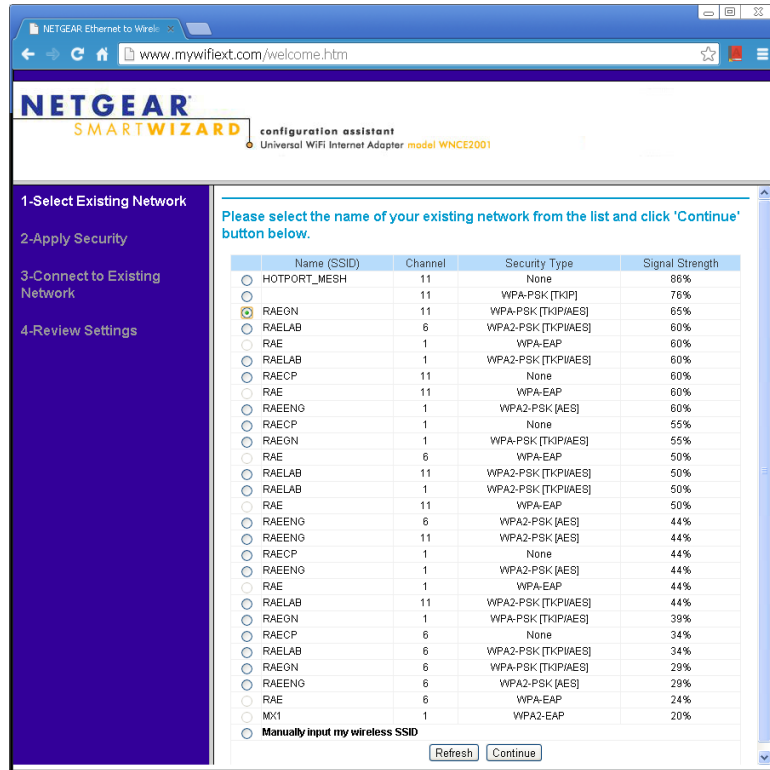

Figure 4. Select a wireless network. (This example shows all available wireless networks within range. Your choices will be different.)
4. Make sure that the PC has no other Ethernet connection (wired or wireless), except the connection to the WiFi Internet Adapter. Open a web browser in Windows. The WiFi Internet Adapter setup menu will be shown as Figure 4 to Figure 6. Note: You must select a region. Then click the “Continue” button.
5. Following the process shown in Figure 4 to Figure 6, select a wireless network, enter the password for the wireless network, and confirm settings/connection.
9. Enable the PC's Wi-Fi and connect the PC to the same wireless network as the WiFi Internet Adapter. (In this example, the wireless network used is RAEGN as shown in Figure 4.)
- a. Manually.** Open the corresponding TCP/IP properties of the PC Wi-Fi (wireless) port. Manually set the IP address, subnet mask and default gateway as shown in Figure 4 for connection to the AutoRAE 2 Controller, which has DHCP disabled.